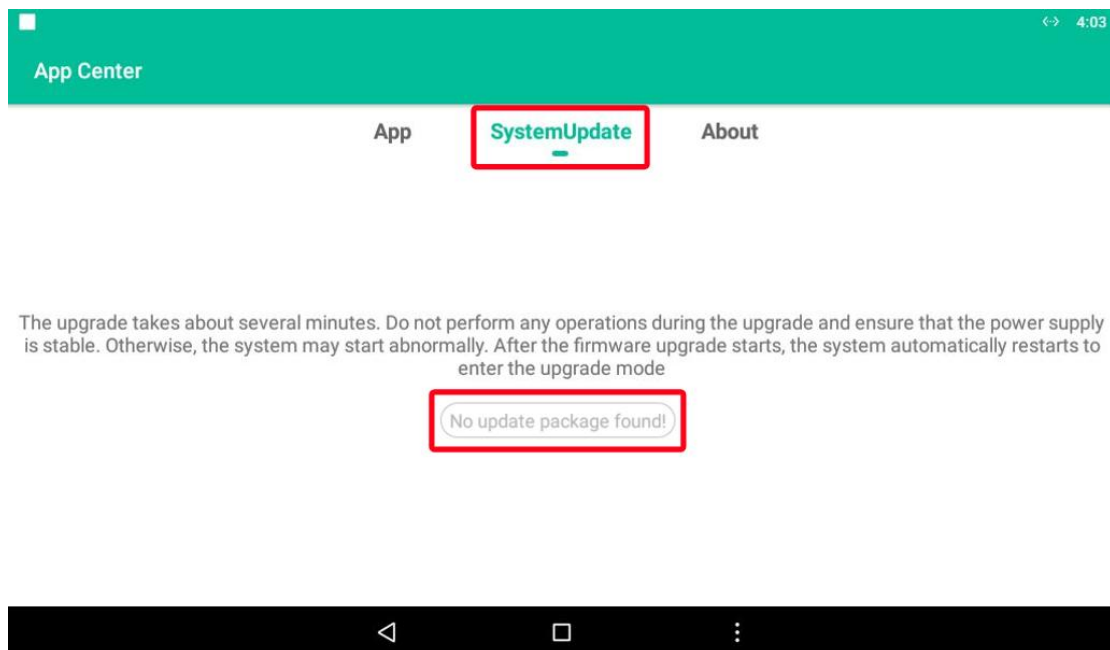
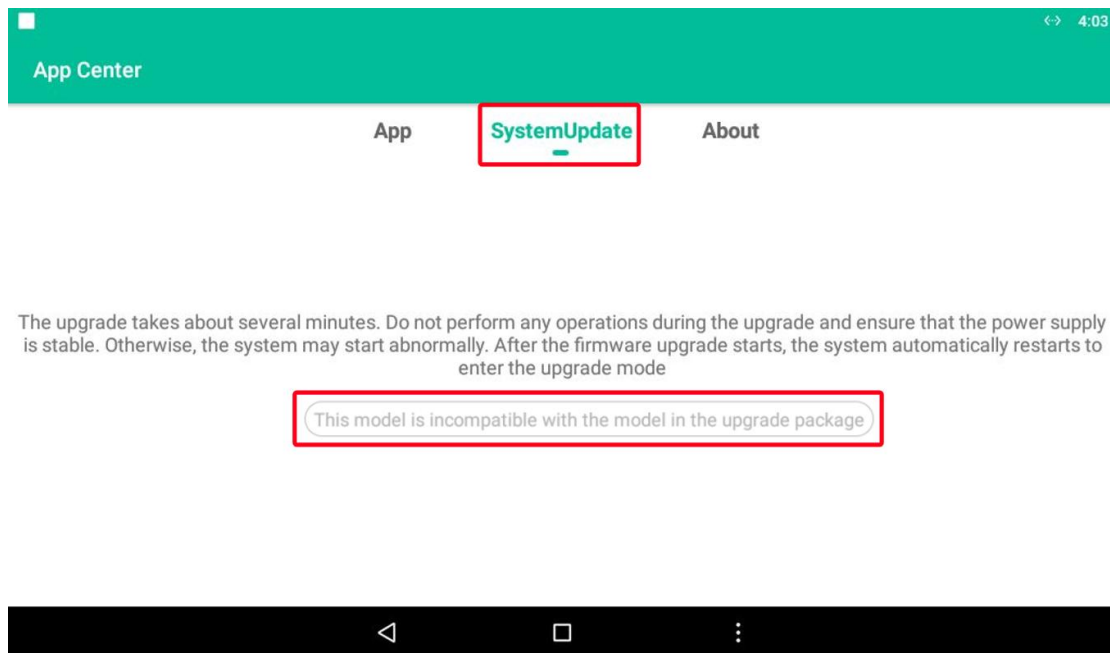

Figure 1-6
Figure 1-7
2. After inserting USB disk, update package can be loaded if there is an update package in the USB disk; if not, will display "No update package found! ", as shown in Figure 1-6. If the update package in the USB disk cannot be upgraded, the system interface will prompt the corresponding reason, as shown in Figure 1-7.